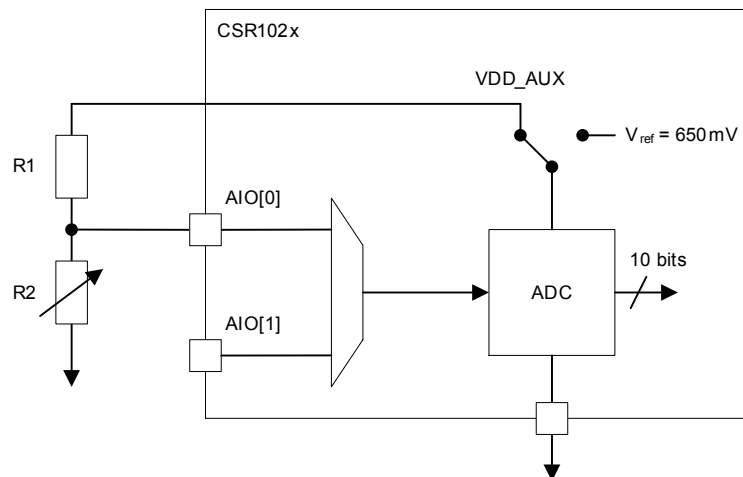

Figure 7-5 10-bit Aux ADC Reference
- The ADC reference is VDD_AUX, see Figure 7-5.
NOTE Figure 7-5 shows an additional internal 650 mV reference. This is for QUIL test purposes only.